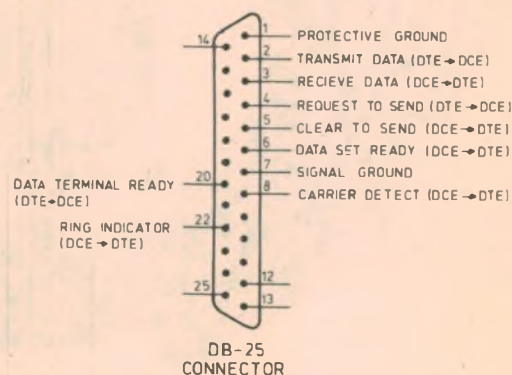

Fig.2: The main connections for a DB-25 connector as used for RS-232C serial data communication.
Fig.2 shows the most important of these connections. The most basic of all, and those that are essential, are those associated with pins 2, 3 and 7. Pin 2 is the Transmit Data (TD) line, via which outgoing data leaves the equipment concerned; pin 3 is the Receive Data (RD) line, via which incoming data